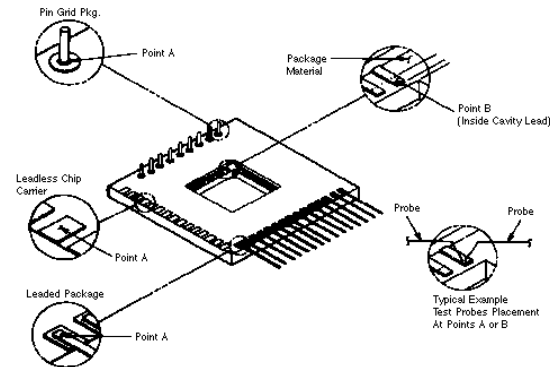
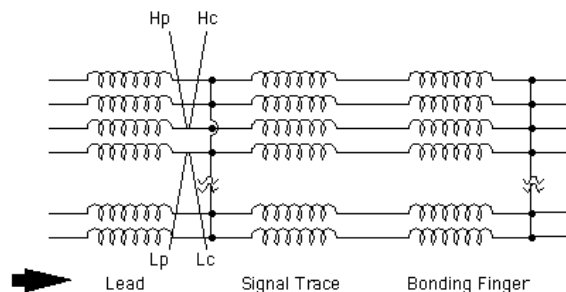

Figure 1
Figure 2
It is not practical to apply this test method for fine-pitch packages where traces or pads (point A of Figure 1) cannot be connected to with two probes.
5.1 *internal inductance (of packages)* — Inductance of the circuit that comprises the signal path starts from the shoulder or in the center of the outside lead (point A of Figure 1) and ends at the end of the lead on the cavity side of the lead (point B of Figure 1). The return path is made by tying all other traces (except for the target trace in the same electric potential) together. The target trace is tied to the return path at the bonding finger (see Figure 2).